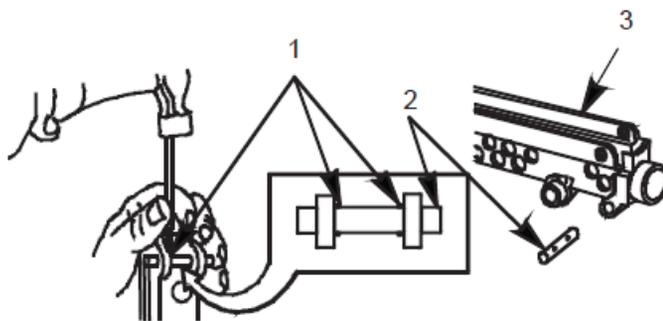

Figure 31a. Tripod Retaining Pin, Spring Pins
1. Install tripod retaining pin (Figure 31a, Item 2) into receiver (Figure 31a, Item 3) and drive in two new spring pins (Figure 31a, Item 1) to protrude equally both sides of tripod retaining pin (Figure 31a, Item 2).